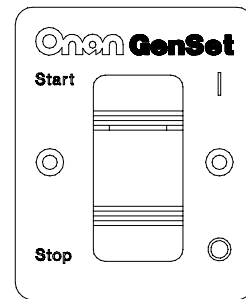

FIGURE 5-4. REMOTE SWITCH
- Remote switch / status lamp (Figure 5-4).